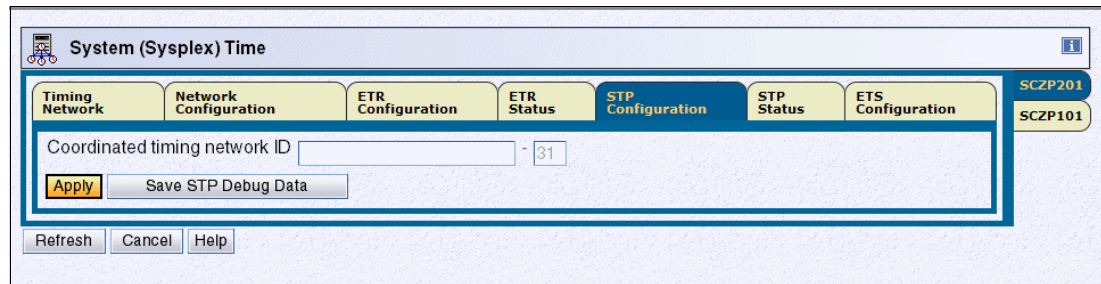

Figure 9-10 STP Configuration tab - Remove STP ID (SCZP201)
3. Remove the existing STP ID (in our case, ITSOPK) from the Coordinated Timing Network ID field (Figure 9-10).